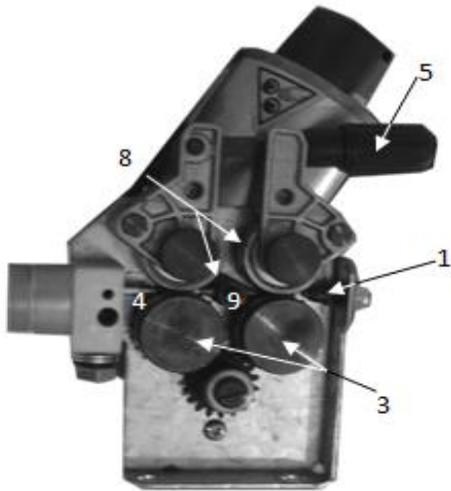

Fig.3
- Thread the end of the wire into the back guide (1, Fig. 3).
- Lift up the idle rollers (8, Fig3) after releasing the roll pressure device. Make sure that the drive rollers (3, Fig. 3) have the grooves corresponding to the wire being used Wire diameter stamped on the drive rollers.
- Thread the wire into the central wire guide (9, Fig. 3) and into the wire guide of the centralized attachment (central adaptor) (4, Fig. 3) for a few centimeters. Lowering the idle roller holder arm ensures the wire goes into the slot of the drive rollers. If necessary, adjust the pressure between the rollers with the screw provided (5, Fig. 3). The correct pressure is the minimum that does not allow the rollers to skid on the wire. Excessive pressure will cause deformation of the wire and tangling on the entrance of the sheath and insufficient pressure can cause irregular welding.
Unscrew the screw (3, Fig. 3) and remove the safety guard of the gearing (7, Fig. 3). Lift up the idle roller holder arm (5, Fig. 3) and proceed as follows: